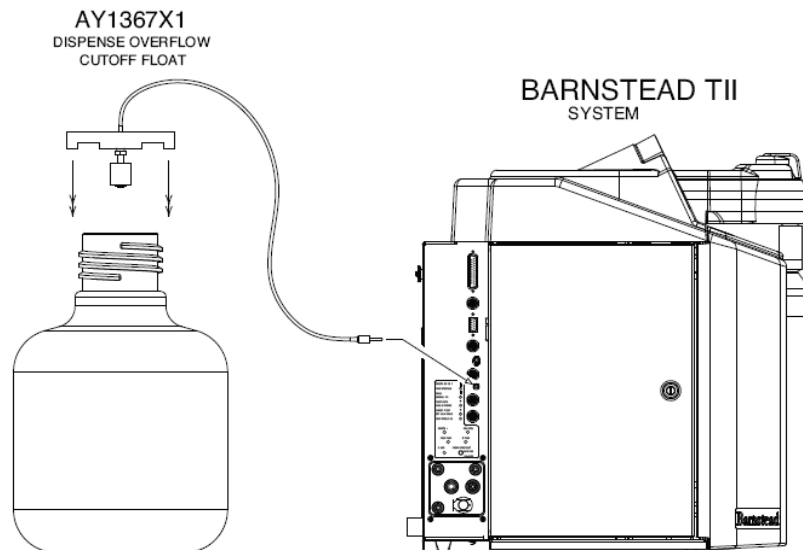

Figure 3-26. Dispense Overflow Cutoff Float
1. Prior to initiating an automatic dispense (timed or volumetric), plug AY1367X1 into connector on the back left side of the Barnstead TII as shown in Figure 3-26.